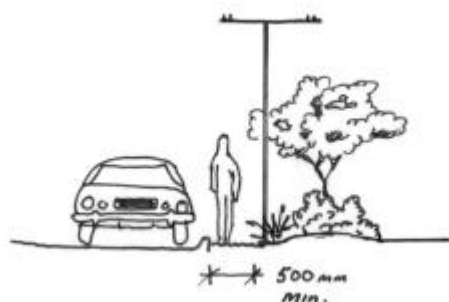

Figure 2
- A strip of low vegetation and/or an even, stable surface must be maintained a minimum of 0.5 metres wide from the back of the kerb for pedestrian access from the roadway and from cars parked at the kerb, even if a formed footpath is adjacent your property boundary (figure 2).